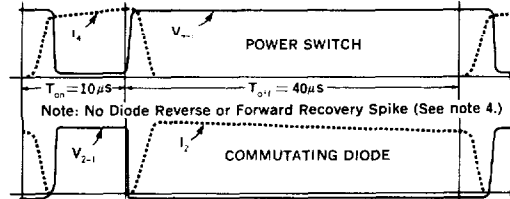

Figure 2. PIC625, 626, 627 Switching Waveforms
- No reverse recovery spike generated by commutating diode (See note 4. and Fig. 2.)
- In switching an inductive load, the current will lead the voltage on turn-on and lag the voltage on turn-off (see Figure 2). Therefore, Voltage Delay Time (t_{dv}) $\approx t_{di} + t_{ri}$ and Current Storage Time (t_{si}) $\approx t_{sv} + t_{fv}$.
- As can be seen from the switching waveforms shown in Figure 2, no reverse of forward recovery spike is generated by the commutating diode during switching! This reduces self-generated noise, since no current spike is fed through the switching regulator. It also improves efficiency and reliability, since the power switch only carries current during turn on.